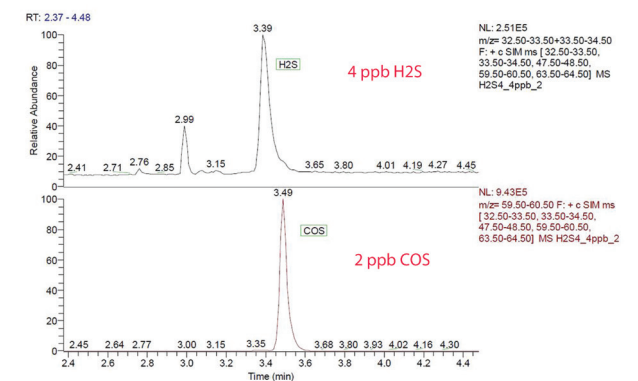
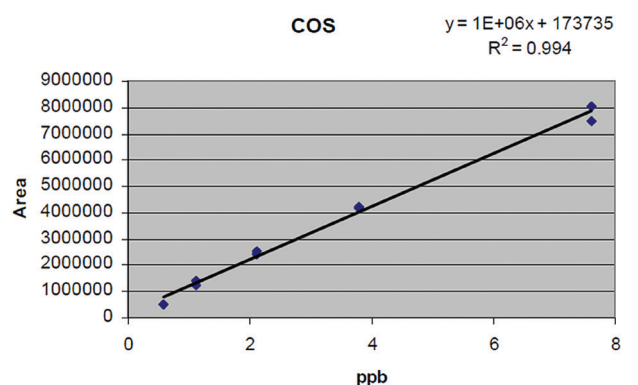

Figure 3: low level ppb Sulphur analysis using GCMS, SIM mode.
Figure 4: GCMS analysis of COS, linearity: R2 = 0.994 from 2 to 10 ppb.
The Mass Spectrometer is usually not considered for low level Sulphur species analysis; (P)FPD and SCD have traditionally dominated this application. However GC-quadrupole MS is a very interesting alternative, providing in fact better sensitivity and selectivity and positive component identification as added value. Figure 3 shows the mass chromatograms of H2S and COS at low ppb level while figure 4 demonstrates good linearity.